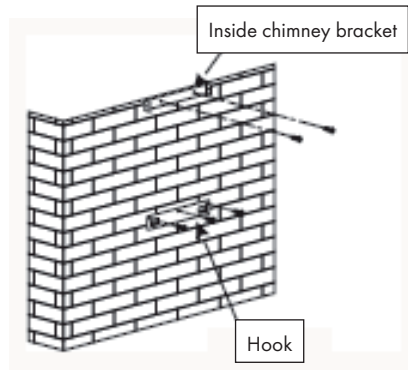

Figure 1
1. Install the hook at a suitable place once the installation height is fixed, in a straight line. The fixed position of the inside chimney bracket determines the position of the chimney (see figure 1).